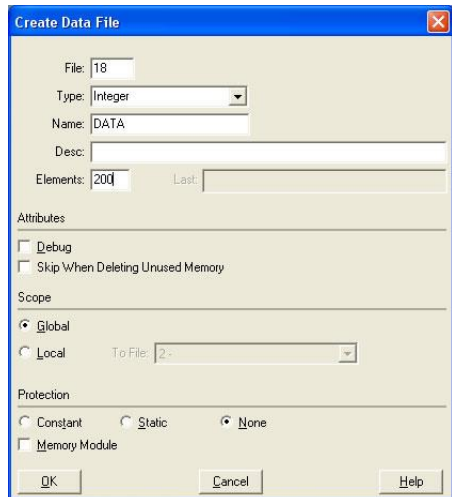

Figure 61: Creating a Data File
- c) Follow the same procedure to create a data file. This file will be used to store the incoming data read from the interface card. Enter a file number (e.g. 18), set the type to “Integer”, enter a descriptive name (e.g. “DATA”), and enter a number of elements (e.g. 200). Refer to Figure 61. Click OK to create the file.